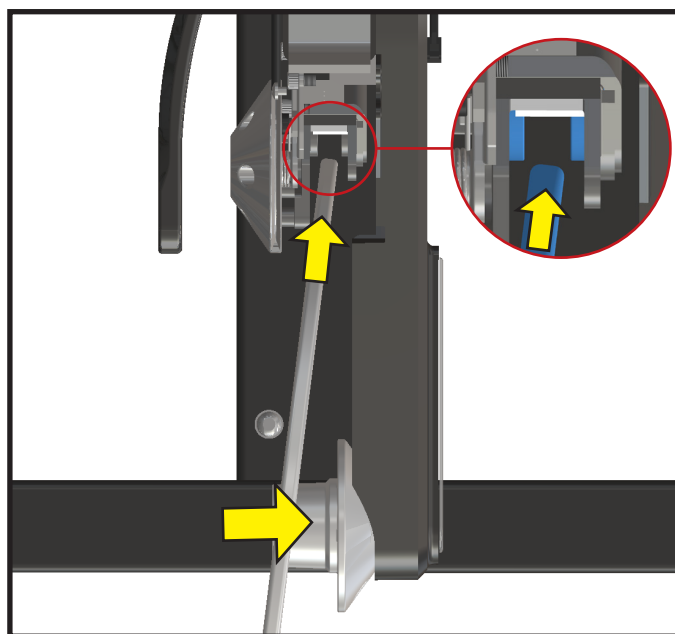

Figure 3. Location of Magnets
2. Slide the flywheel between the two magnets and over the hub, refer to Figure 3.